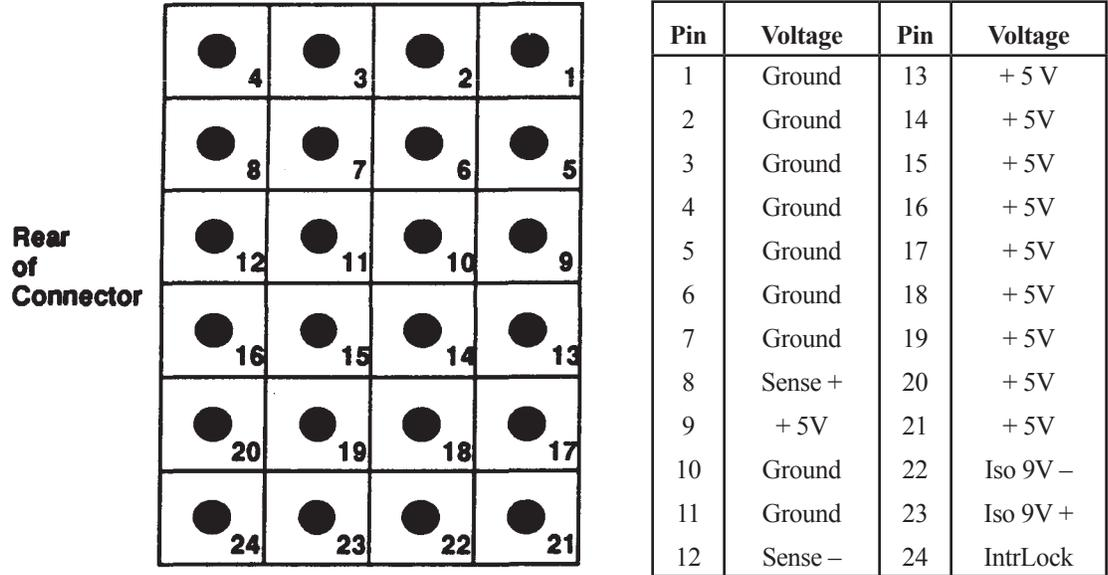
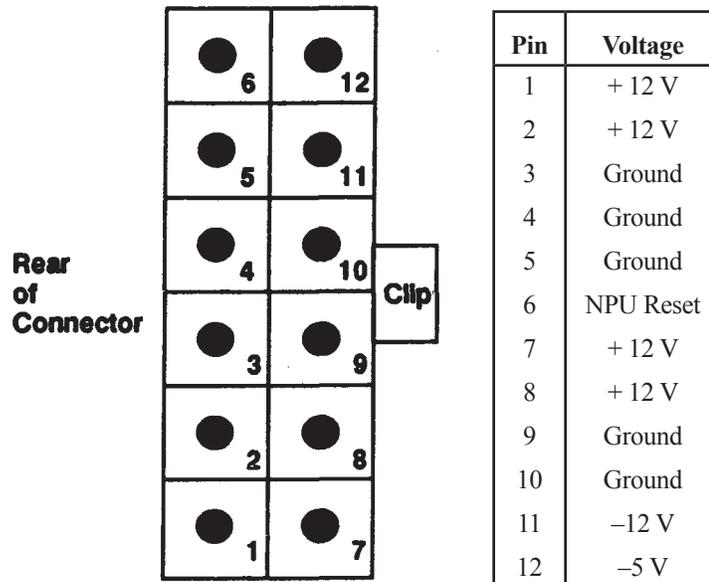

Figure 4-22. Model 400s System Unit Power Supply Large Cable Connector
Figure 4-23. Model 400s System Unit Power Supply Small Cable Connector
- C. Switch the system unit power off and remove the power supply screws and slide the power supply out about 3 inches. Switch the power on and measure the voltages on the two power supply connectors as shown in Figure 4-22 and Figure 4-23 (leave the connectors connected to the power supply and measure the voltages through the rear of the connectors). If the voltages are not present, go to Step D. If the voltages are present, go to Step E.
- D. Check Pin 24 on the large connector shown in Figure 4-22 for + 5 V dc. If the voltage is not correct, replace the power supply.
The main power distribution cable large connector's pin numbers are the same as its pins on the power supply board (see Figure 4-22). Its small connector's pin numbers are different than its pins on the power supply board (see Figure 4-23). Note that you must check these voltages with the connectors attached to the power supply. Check the voltages through the rear of the connectors.